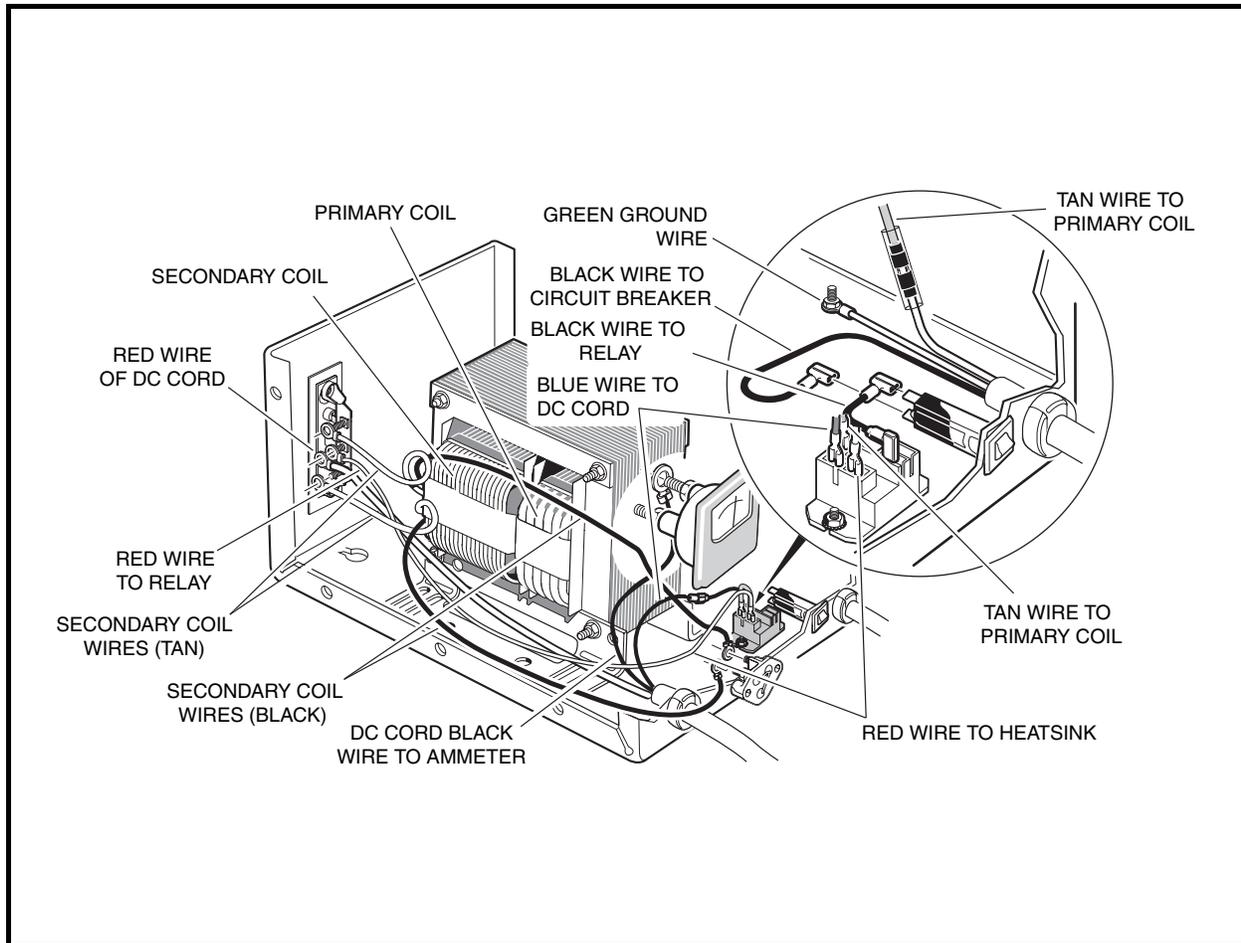

Figure 3-8 PowerDrive Battery Charger
6. Remove the DC cord blue wire from the red wire connected to the charger relay and check continuity between the positive and negative pins and middle pin on the DC plug (**Figure 3-7, Page 3-8 and Figure 3-8, Page 3-12**). There should be no continuity.